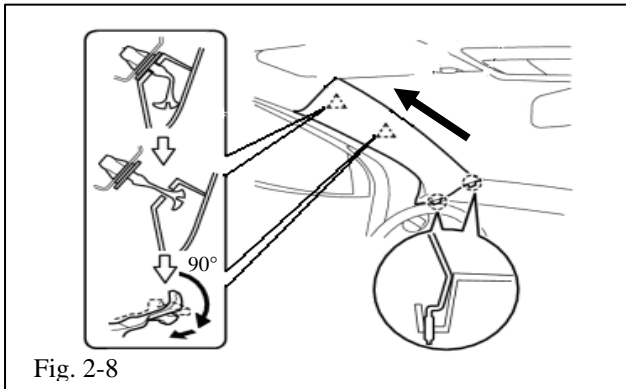

Fig. 2-8
- (1) Starting from the top, pull the A pillar garnish outward so that the top clip and center clip detach from the A pillar garnish and the tip of the clips lock in the pillar garnish's hole. (Fig. 2-8)
- (2) Note the orientation of the clips.
- (3) Put masking tape around the jaws of the needle-nose pliers to prevent clip damage.
- (4) Using needle-nose pliers, rotate the center portion of the top clip 90°, then pull the pillar garnish to release the tip of the top clip from the pillar garnish. (Fig. 2-8)
- (5) Using the same method above, release the pillar garnish from the center clip.
- (6) **DO NOT** remove the clips from the A-pillar body. If the clips show any sign of damage or are removed from the body, replace with a new clip.
- (7) Pull the pillar garnish in the direction indicated by the arrow in the illustration to detach the bottom claws. (Fig. 2-8)